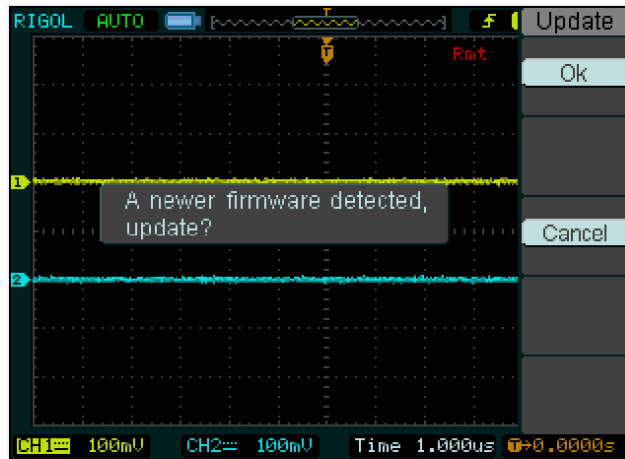

Figure 2
- Choose “OK” to activate the automatic installment process, as shown in Figure 2.